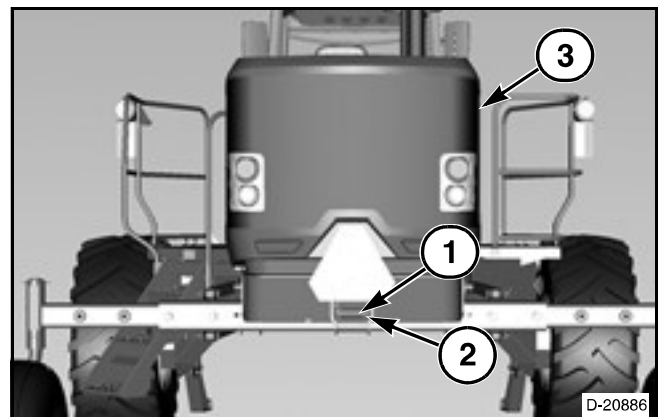

FIG. 6
FIG. 6: To open the radiator compartment, pull down on the latch handle (1) and lift up on the handle (2). Gas springs will help lift and then hold the end cap (3).